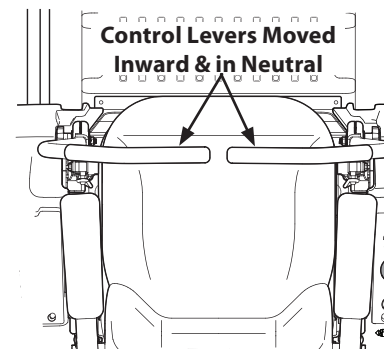

Figure 24
3. Move the RH and LH drive control levers inward in the neutral position. Refer to Figure 24.